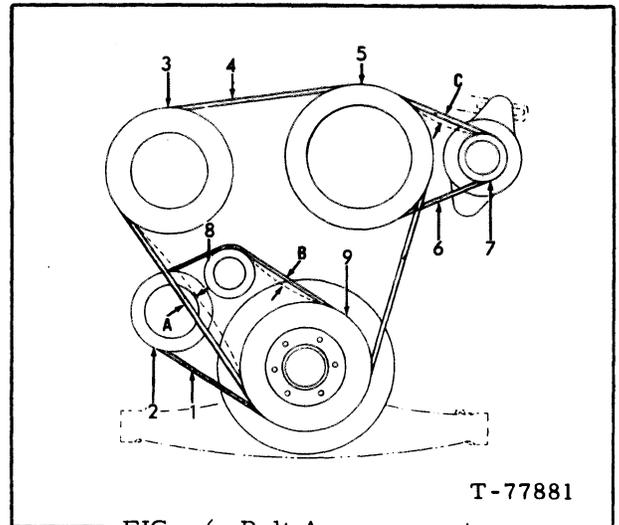

FIG. 6 Belt Arrangement
3.2.4 BELT ARRANGEMENT - 21000 MKII (260-A, 260E-A), 25000 MKII (Fig. 6)